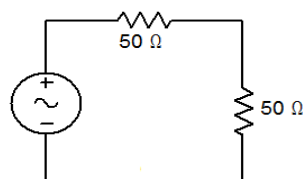

Fig: 8
1. Connect the circuit as shown in fig. 8.
3. Find the BW of the circuit in fig. 8.